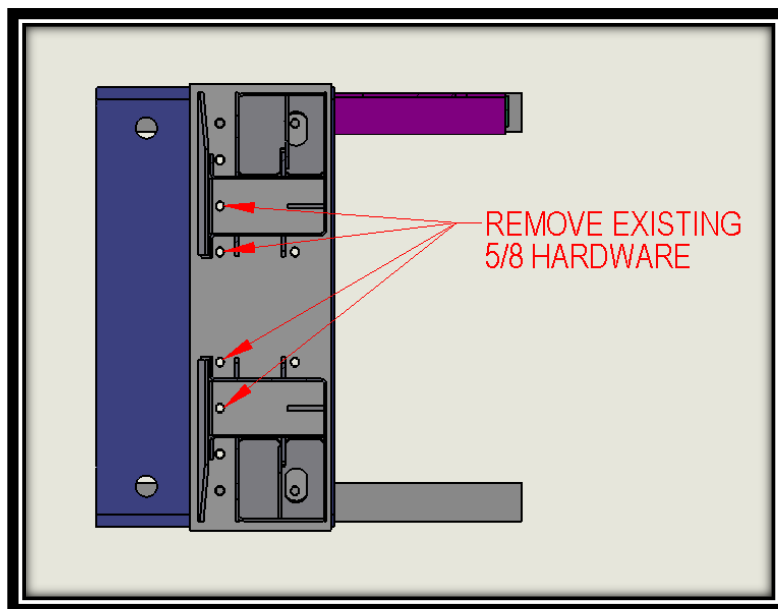

FIG. 6-1
7. Remove and properly dispose of existing 5/8" hardware shown below. Refer to FIG. 6-1.